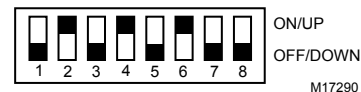

Fig. 4. Dip Switch Settings
1. On SLTA-10 set switch 2 (Remote Host), 4 (NSI) and 6, (19.2K bps) up. See Fig. 4.